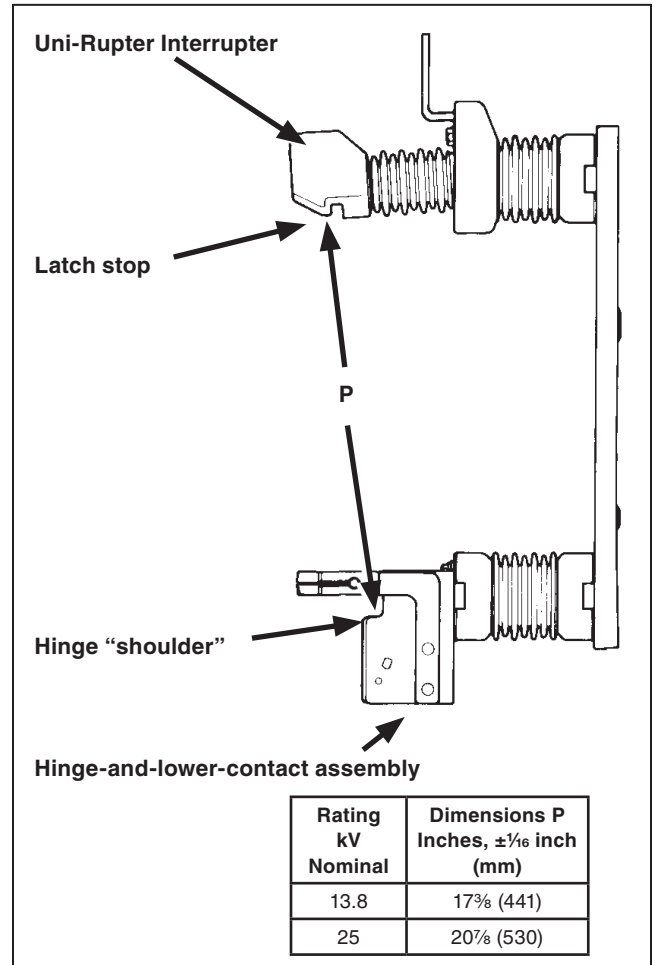

Figure 1. Proper separation between latch stop and “shoulder” on hinge
- STEP 1.** Accurately measure the distance between the lower edge of the latch stop on the Uni-Rupter Interrupter and the “shoulder” on the hinge-and-lower-contact assembly (Dimension P in Figure 1). Make sure Dimension P is within the specified tolerance on both sides of the Uni-Rupter Interrupter. If adjustment is necessary, slightly loosen the mounting bolts that secure the hinge-end insulator to the base. Then, move the insulator toward or away from the Uni-Rupter Interrupter as required to bring Dimension P within the specified limits. Make sure this dimension is maintained on both sides of the mounting. Tighten both mounting bolts.